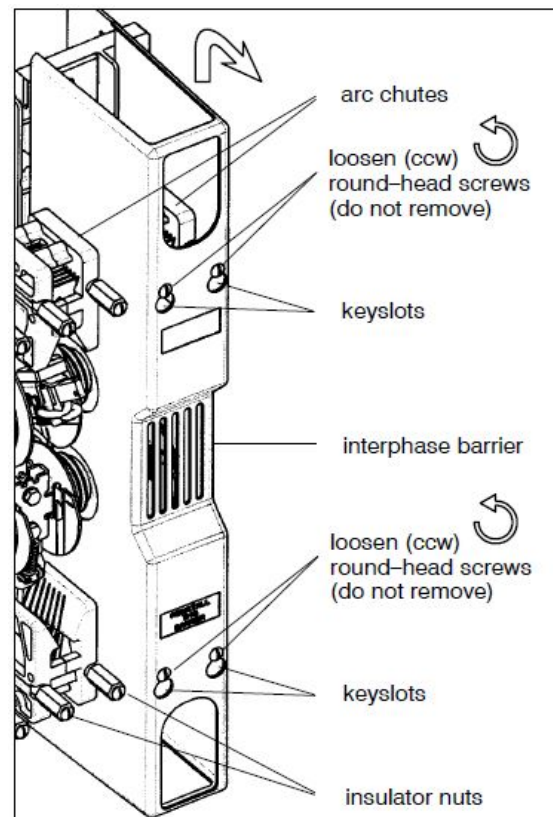

Figure 20. Interphase barrier removal
3. **Remove the interphase barriers** (Figure 20). Use a blade screwdriver to loosen (ccw) four round-head screws holding each barrier to the arc chutes. Slide barrier up until keyholes clear the round-head screws, then remove it.
Use a 5/8" nutdriver to remove (ccw) two long insulator nuts. Then pull the arc chute outward (off the long threaded rods). See Figure 20.
Slide the arc chute (arc splitters toward the contacts and recess for nuts outward) between the two long threaded rods. Reinstall the two long insulator nuts (round shoulder in) and use a 5/8" nutdriver to GENTLY tighten (cw) until snug. Do not overtighten these nuts. See Figure 20.